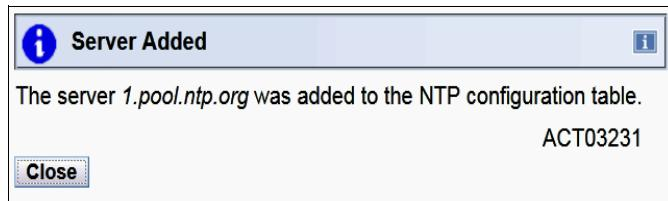

Figure 8-7 NTP server successfully added ACT03231 message
- During this process, the HMC initiates communication with the NTP server specified. If NTP communication successfully completes, the window shown in Figure 8-7 is displayed. You can add multiple NTP servers by repeating step 4. Generally, define at least two NTP servers.